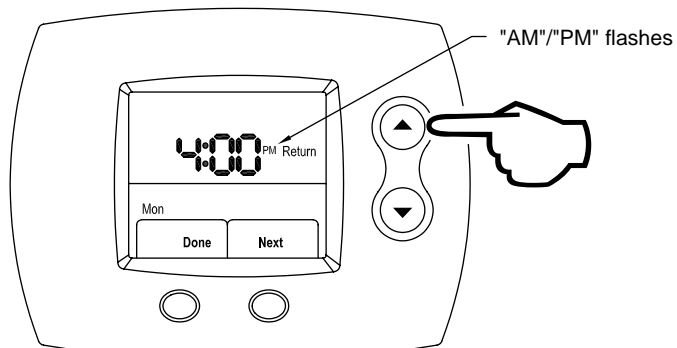

Figure 92
Step 18: Next, using the **UP** (index AM / PM) or **DOWN** (index AM / PM) buttons, select AM / PM, as shown in Figure 92.